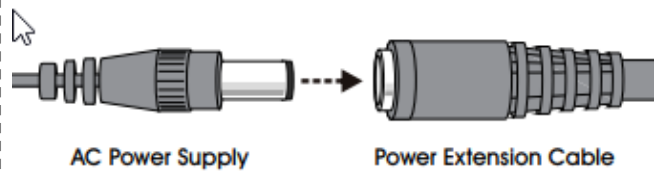

Figure 10
3. If required, attach the 10 ft. power extension cable (Figure 10)